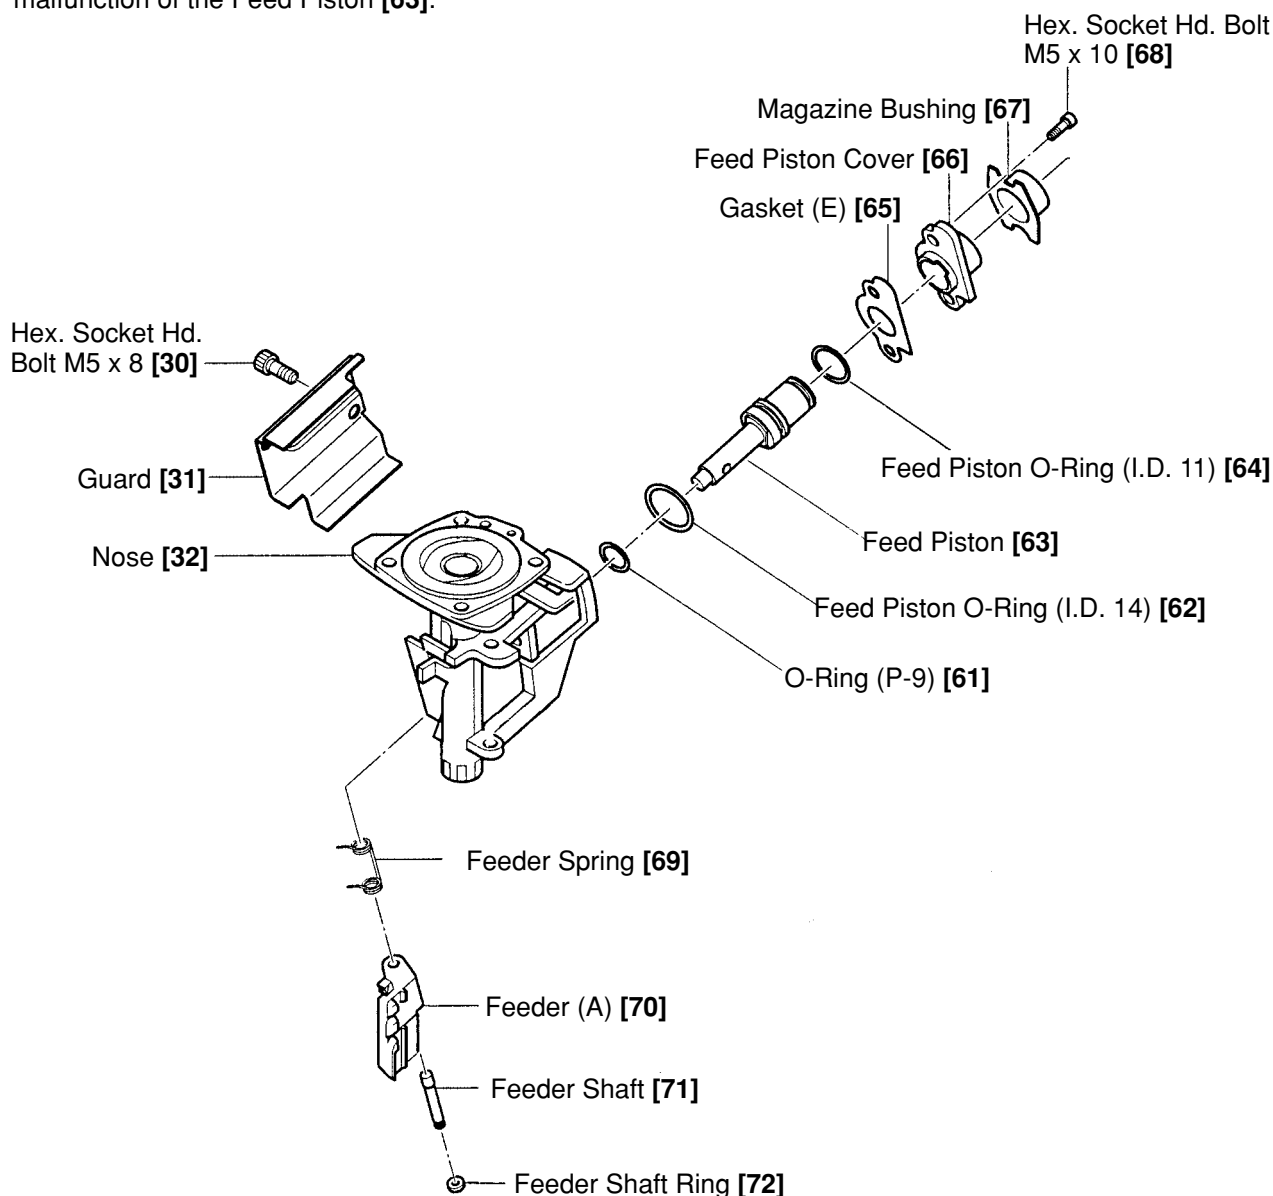

Fig. 22
(2) Feed Piston [63], Feeder (A) [70] and related parts: (See Fig. 22.)
#### (a) Disassembly (See Fig. 22.)